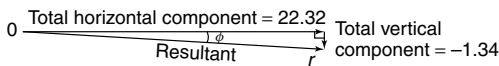

Figure 3.25
- (v) Sketch the total horizontal and vertical components as shown in Figure 3.25. The resultant of the two components is given by length *or* and, by Pythagoras' theorem,